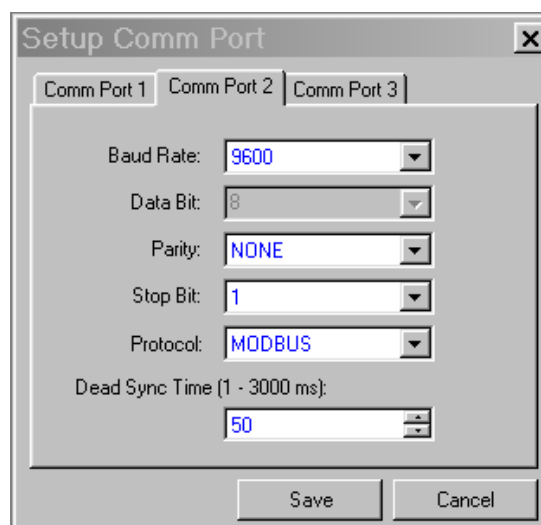

Figure 4-7 Setup Comm Port Dialog Screen
1. From the IPScorm Main Screen menu select **Tools/Relay Communication**. IPScorm will display the Setup Comm Port dialog screen (Figure 4-7).